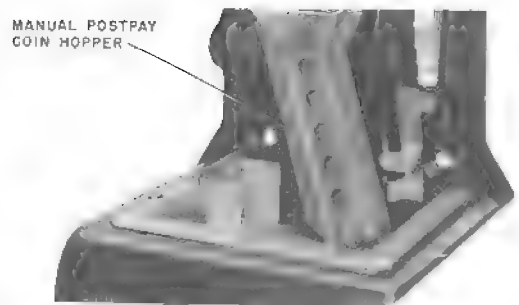

Fig. 12—200C Manual Postpay Mechanism Unit
- Manual postpay, no coin relay (Fig. 12)